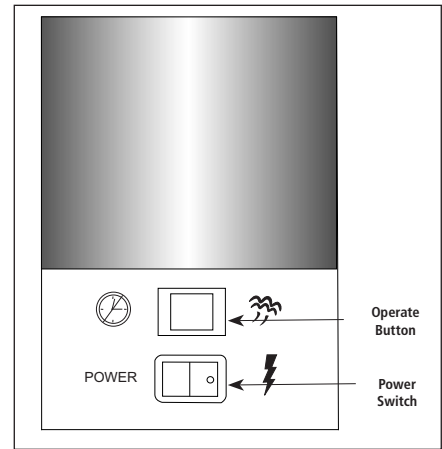

Figure 2. Control Panel (Non-Timer Models)
1. Turn the power on (Figure 2).